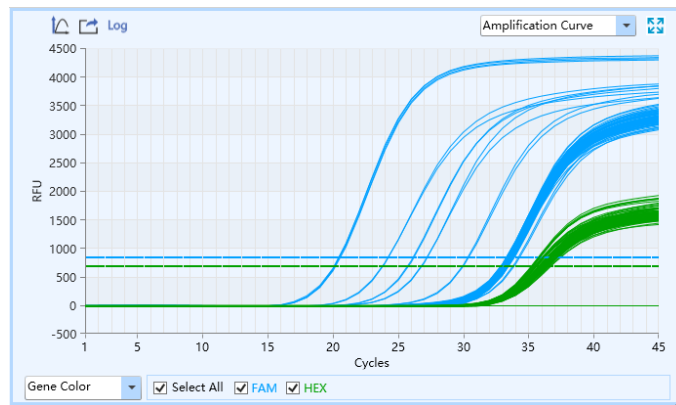

Figure D-9.1. Abs Quant Analysis Interface - Amplification Curve Functional Module
- I. **Amplification Curve:** display the diagram of fluorescence intensity against cycle number of the current experiment, as shown in figure D-9.1.